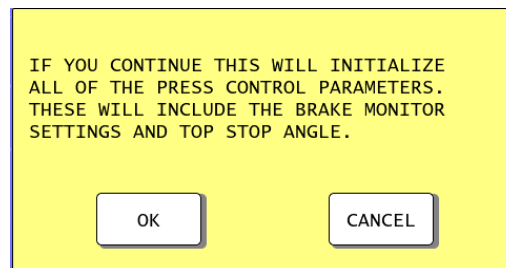

Figure 3-4. Initialization Operation Confirmation Window
6. After you press one of the buttons on the System Initialization Menu (see Table 3-1, page 113), a confirmation window appears, similar to Figure 3-4. Press OK to proceed or CANCEL to quit. The initialization process completes and returns to the System Initialization Menu.